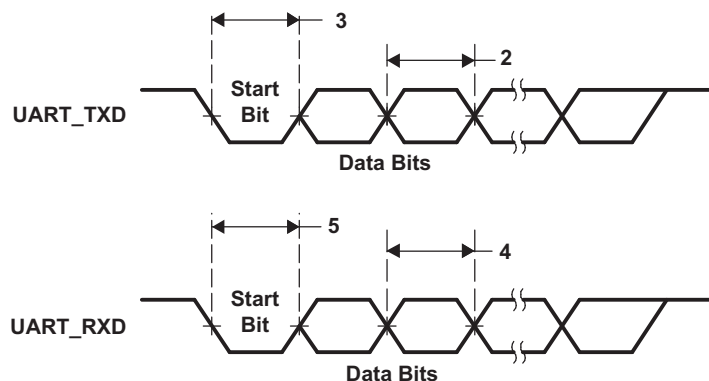

Figure 6-22. UART Transmit/Receive Timing
Table 6-20. Timing Requirements for UART Receive⁽¹⁾⁽²⁾ (see Figure 6-22)
(1) U = UART baud time = 1/programmed baud rate.
(2) These parametric values are measured at DV_{DDIO} = 3.3 V, 2.75 V, and 2.5 V
Table 6-21. Switching Characteristics Over Recommended Operating Conditions for UART Transmit^{(1) (2)} (see Figure 6-22)